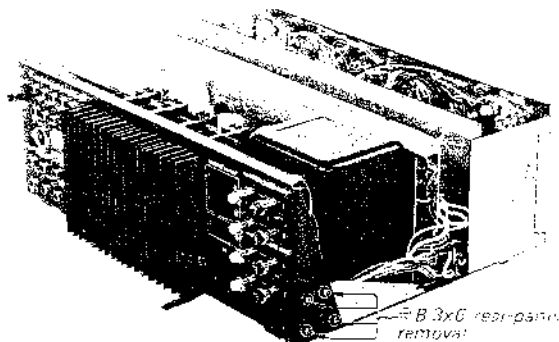
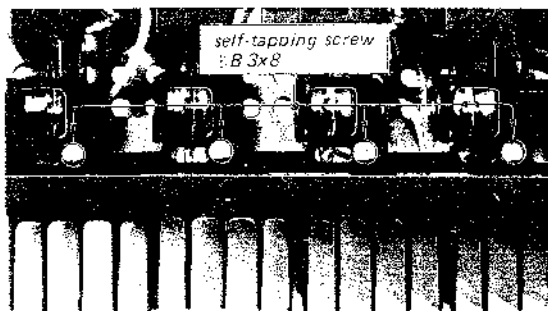

Fig. 2-6 Rear panel removal
Fig. 2-7 Top heat sink removal
2. Remove the four screws (B 3x6) at each side of the chassis (see Fig. 2-6) and five self-tapping screws (B 3x6) at the rear bottom of the chassis as shown in Fig. 2-7.
2. Remove the four self-tapping screws (# B 3x8) securing the top heat-sink bracket as shown in Fig. 2-7.